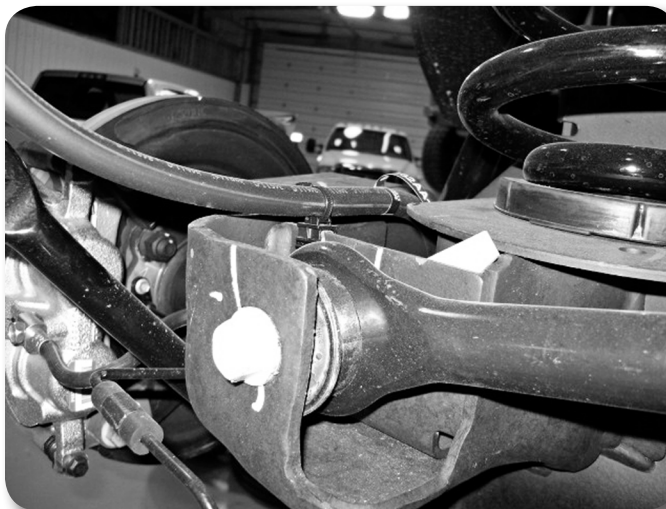

Figure 1
2. Disconnect the rear trackbar from the axle, retain all hardware. **Fig 1**